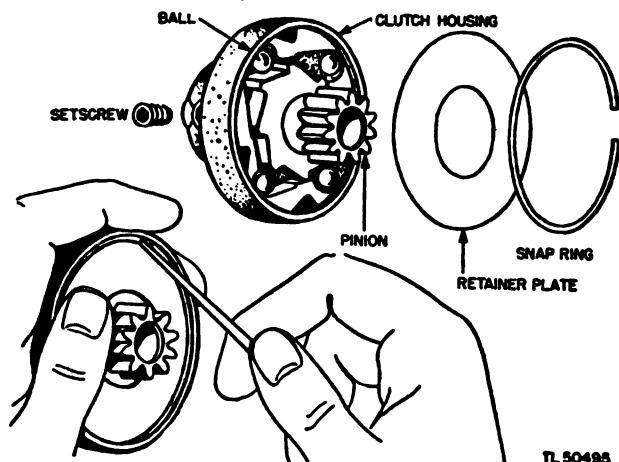

Figure 76. Foot-pedal clutch.
b. ADJUSTING FOOT STARTER CLUTCH (fig. 76.) If the starter clutch slips or fails to turn the engine when stepping on the starter pedal, it is probably due to one of the following causes: a loose setscrew; a worn clutch housing; or a worn or broken pinion. The following procedure is used in repairing the foot-pedal clutch:
(1) Tighten the setscrew to be sure that the clutch is tight on the crankshaft. Use a 5/16-inch Allen hexagonal setscrew wrench.
(2) If the clutch still slips, loosen the setscrew and remove the clutch from the shaft.
(3) Pry out the snap spring with a sharp tool, holding the clutch in the position shown to prevent the spring from jumping out.
(4) Check the parts carefully for wear or damage and replace any parts necessary.
(5) To reassemble, replace the parts in the same order and slip the spring back in place. Replace the pulley clutch on the shaft with the setscrew hole lined up with the recess in the crankshaft extension. Securely tighten the setscrew.